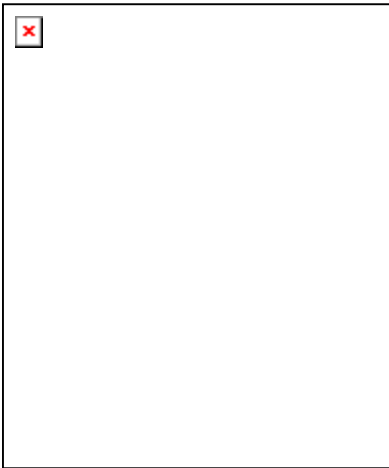

Figure 2-3
1. Select mounting sites for the strain gauges. (See Figure 2-3)
1. Fabricate a strain gauge mounting jig with mounting holes exactly like those on the strain links or use a weld fixture. Use the jig or fixture in place of the strain gauge when mounting the pads to the machine. (See Figure 2-3)